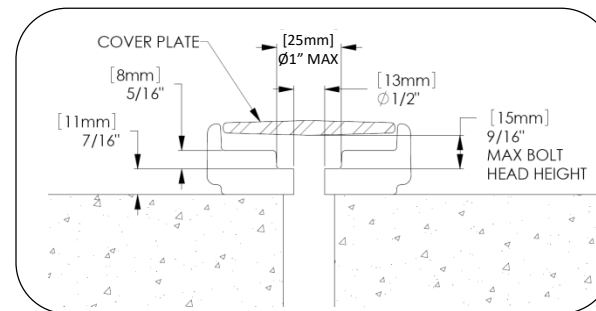

Fig. 5. – Anchor hole clearance for surface mount
- For surface mount option: stainless steel anchoring hardware, (2) required per unit (not included). Landscape Forms, Inc. recommends maximum 1/2" dia bolt, with a minimum embedded depth of 3" (see Fig. 5. for bolt clearances).